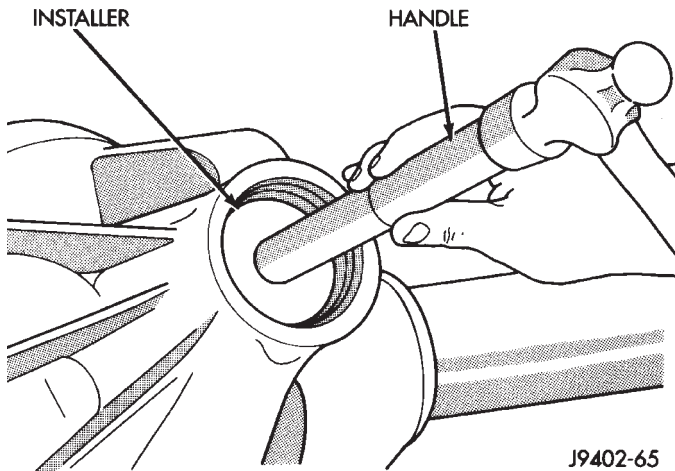
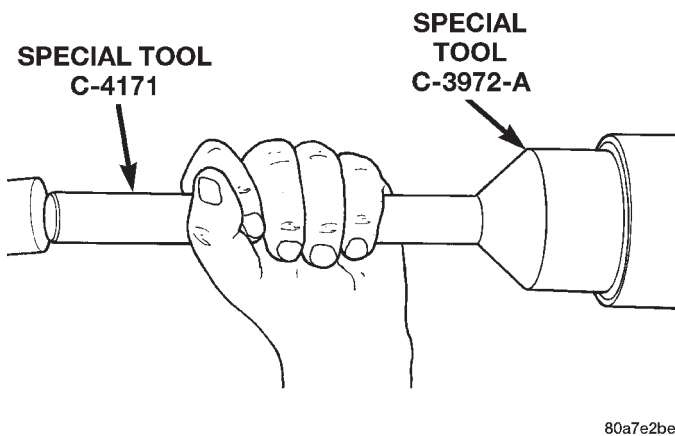

Fig. 34 Pinion Outer Bearing Cup Installation
Fig. 35 Pinion Seal Installation
(3) Apply Mopar® Door Ease, or equivalent, stick lubricant to outside surface of front pinion bearing cup. Install the bearing cup with Installer D-144 and Handle C-4171 (Fig. 34).
(4) Install front pinion bearing, and oil slinger, if equipped.
(5) Apply a light coating of gear lubricant on the lip of pinion seal. Install seal with Installer C-3972-A and Handle C-4171 (Fig. 35).